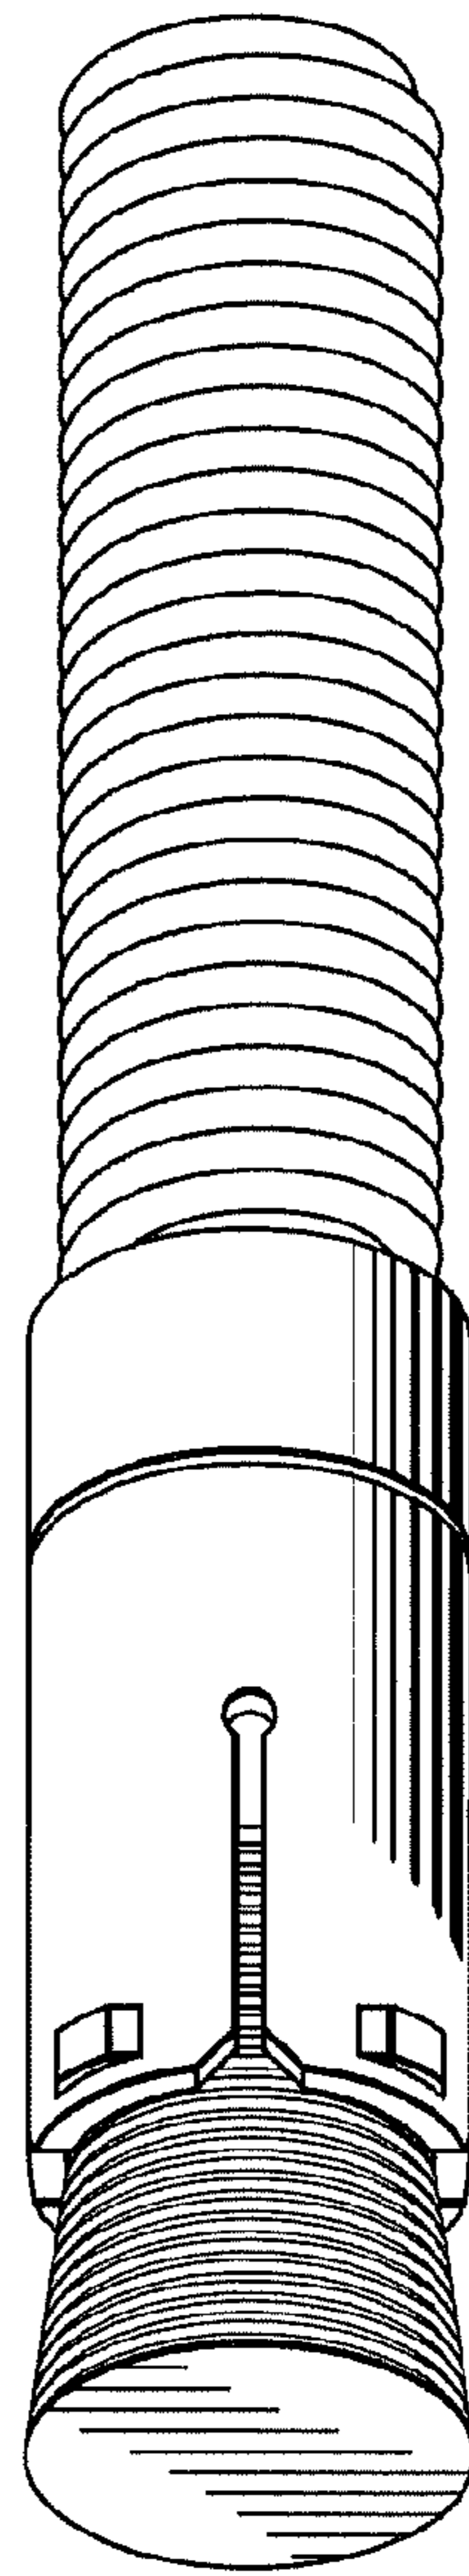

Fig. 22
- FIG. 22 is a bottom perspective view of the stud having latitudinal ridges;